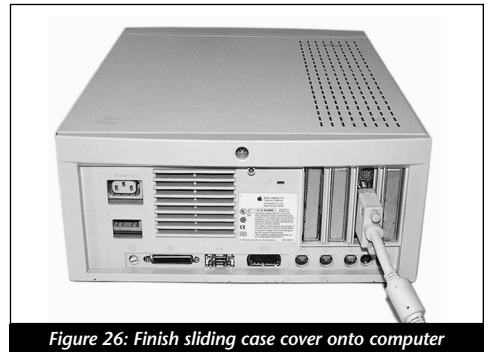

Figure 26: Finish sliding case cover onto computer
24. Finish sliding the cover onto the computer until it lines up with the rear of the computer (**Figure 26**).